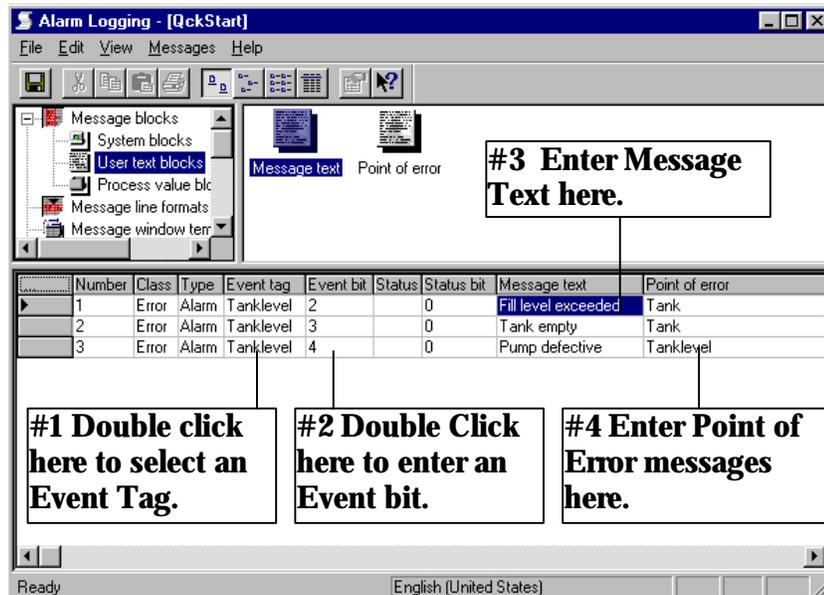

Figure 4.3 WinCC Project "QckStart"; Configuring Message Texts
- 2.** Repeat this step on the number 2 so that you end up with three message lines. See the Figure 4.3.